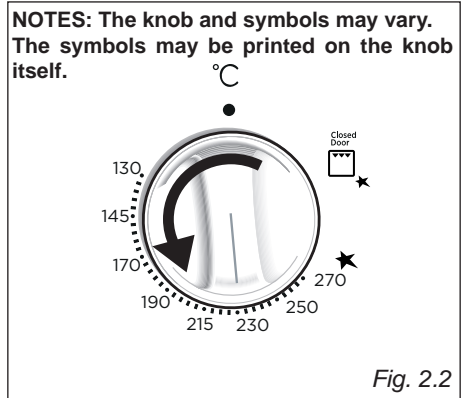

Fig. 2.2
The numbers printed on the control panel or on the knob (fig. 2.2) indicate the increasing oven temperature value (see table below). To regulate the temperature, set the knob to the chosen number. The "FAN ASSISTED GAS OVEN" column refers to the oven burner used in combination with the fan motor (forced convection cooking: only for the "fan assisted" models - models having also the position  or ), while the "GAS OVEN" column refers to the oven burner used in the normal convection mode (without fan motor). The ★ symbol close to the maximum position indicates that the electric ignition is incorporated into the knob (activated by the knob itself).
- 2 – Lightly press and turn the thermostat knob anti-clockwise to the maximum position  (fig. 2.2). Press the knob firmly until the burner lights.